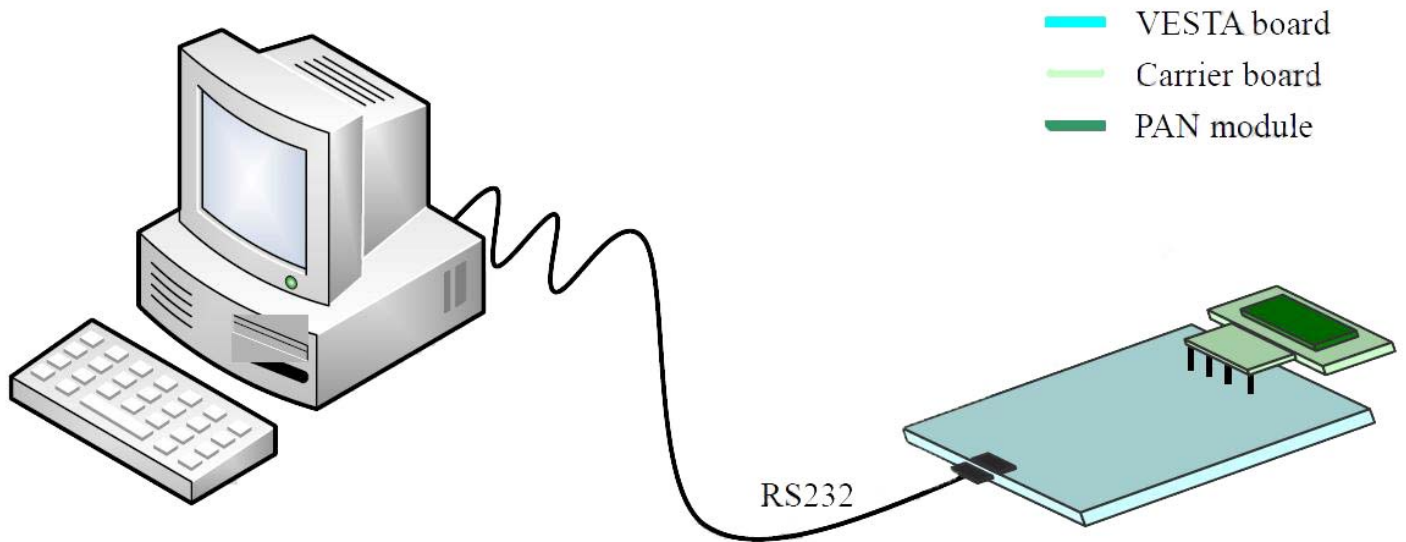

Figure 2
- 3.) Connect the serial cable to a personal computer and the Vesta board as seen on Figure 2.